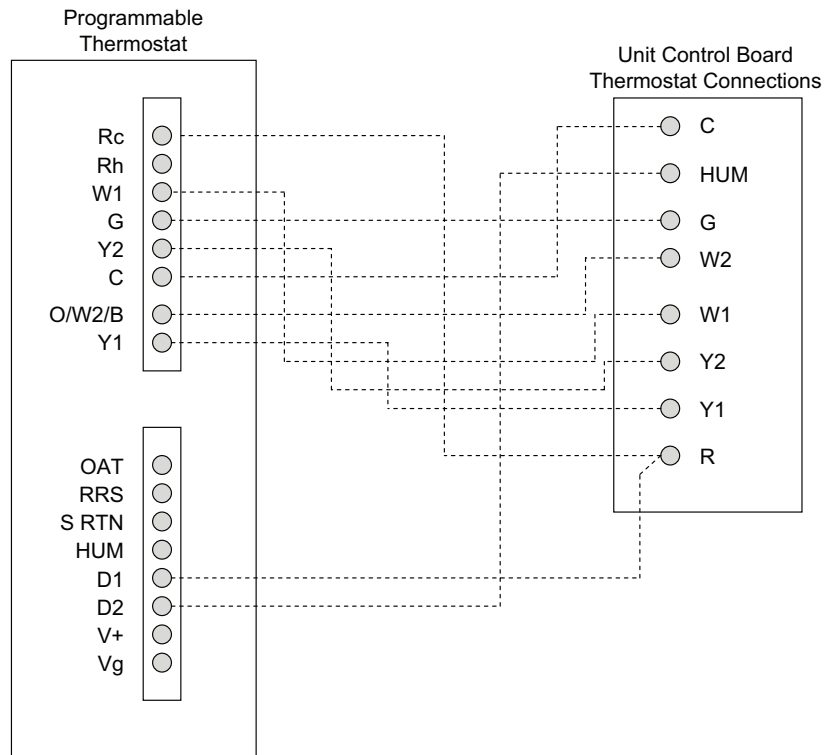

Fig. 57 — 48FE20-30 Unit with Humidi-MiZer Adaptive Dehumidification System with Edge® Pro Thermidistat Device**
3. The Thermidistat has dry contacts at terminals D1 and D2 for dehumidification operation (see Fig. 57). Connect D1 to the R terminal on the UCB. Connect D2 to the HUM terminal on the UCB. Refer to the installation instructions included with the Carrier Edge® Pro Thermidistat device for more information.